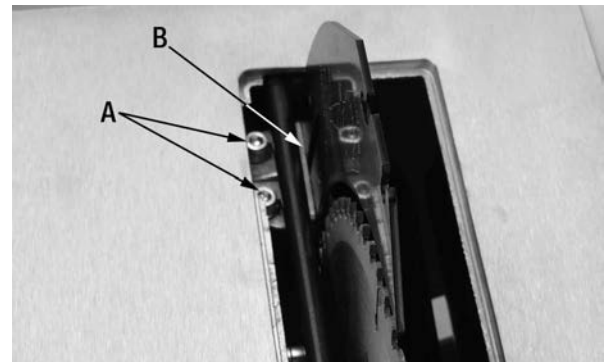

FIGURE 8
- 2) If an adjustment is necessary, loosen 2 cap screws (A) Fig.8 that hold the mounting bracket (B). Adjust the position of the riving knife to the right or left until it is perfectly aligned with the blade. Retighten cap screws.